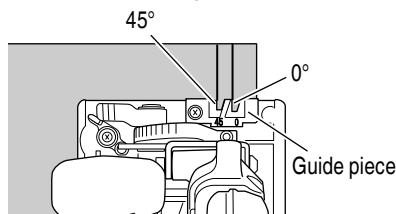
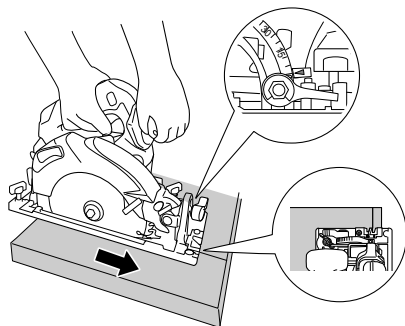
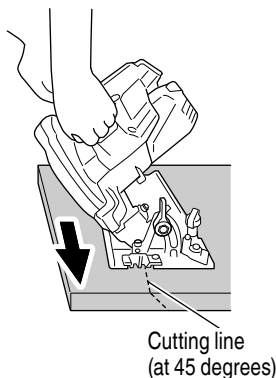

Fig. 30 <Top View>
Fig. 31
Fig. 32
- (1) Place the base on the material, then align the premarked line and the saw blade with the notch at the front of the base (Fig. 30).
- (2) When the base is not inclined, use the right side of the notch (Fig. 30, Fig. 31).
If the base is inclined (45 degrees), use the left side of the notch (Fig. 30, Fig. 32).